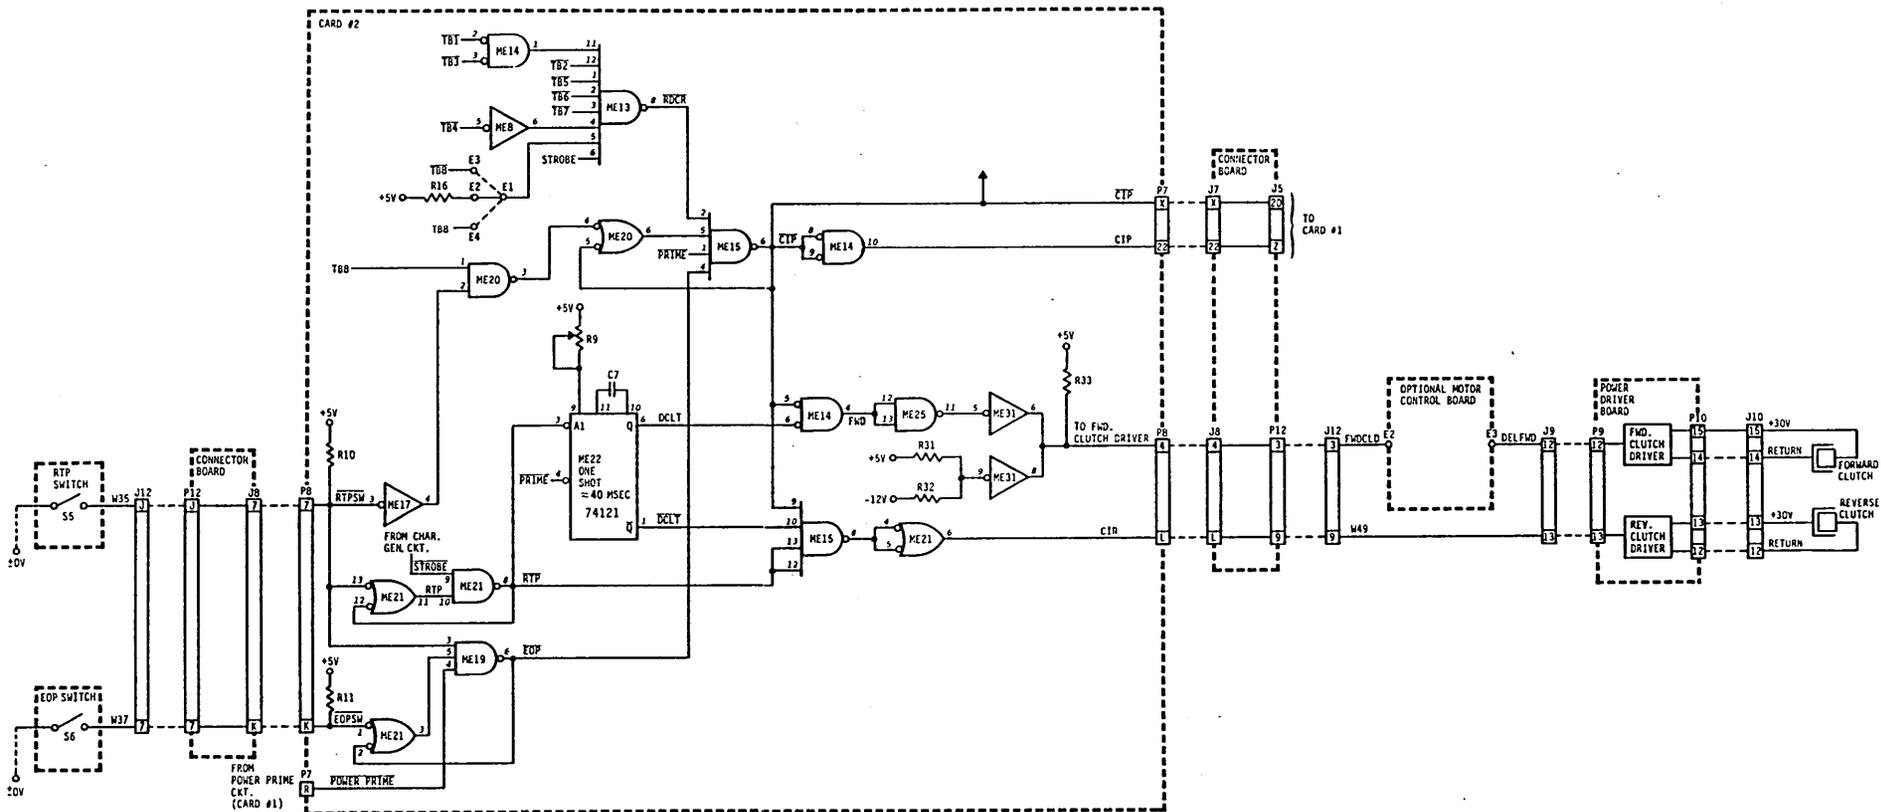

Figure 4-14. FORWARD AND REVERSE CLUTCH DRIVE CIRCUITS
4.5.1 INITIATING THE PRINTING OPERATION (Figure 4-14)
4.5.2 PRINT HEAD MOTION (Figure 4-14; Schematic - Section 7)